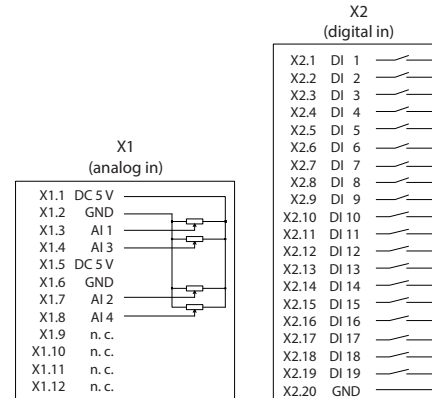

Figure 2. Pin assignment
see Figure 2. „Pin assignment“
- Position the USB module ESS160 (1) in the installation location and fasten the USB module ESS160 (1) using 2 suitable screws through the fastening flaps (2).
- Connect the device (joystick/command device) to connections X1 and X2, see Figure 2. „Pin assignment“.
- Connect the USB module ESS160 (1) with the USB connecting cable (3) to a PC.